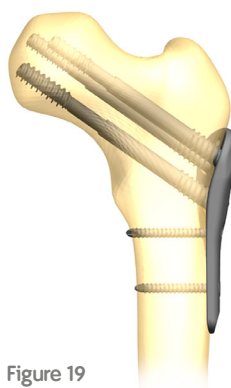

Figure 19
30. Insert the appropriate length 4.5mm Non-Locking Screw using the Self-Retaining Screwdriver (7117-3616) and Tear Drop Handle (7117-3543) (Figure 19).
33. Insert the appropriate length 4.5mm Locking Screw using the Self-Retaining Screwdriver and Tear Drop Handle (Figure 19).